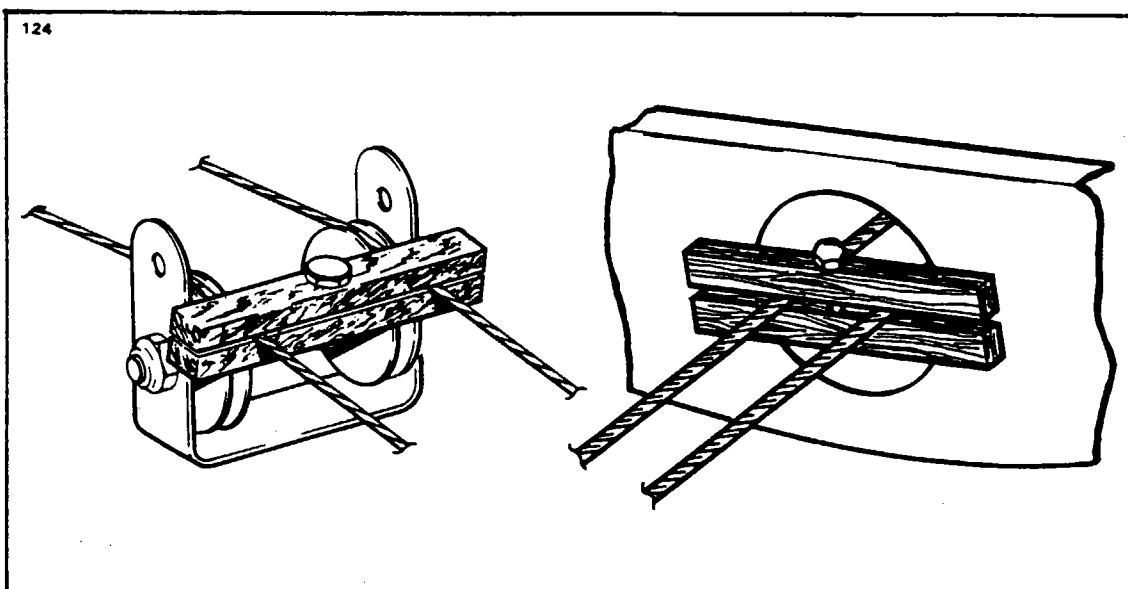

Figure 5-8. Methods of Securing Trim Cables
- b. If the aft trim cable (12) is not to be removed, block the cables at the pulleys (35) in the upper aft section of the fuselage to prevent them from unwrapping from the trim drum. (Refer to Figure 5-8.)
- c. Loosen the cables if the trim control wheel (1) is to be removed or disconnect if the cables are to be removed. Do this at the trim cable turnbuckles (10 and 11) in the aft section of the fuselage.
- d. The control wheel (1) with drum (3) may be removed by the following procedure:
2. The wheel assembly may be removed from its mounting brackets (4) by removing nut, washer and bolt (7) that secures the wheel between the brackets. Draw the wheel from the brackets. Use caution not to damage trim indicator wire (2).
3. Unwrap the left cable (9) from the drum.
4. The wheel and drum are joined by a push fit, separate these two items with their center bushing and unwrap the right cable (8).
- b. Block the trim cables at the first set of pulleys (13) forward of the cable turnbuckles (10 and 11) in the aft section of the fuselage by the method shown in Figure 5-8.
- c. Disconnect the cable (12) at the turnbuckles (10 and 11) in the aft section of the fuselage.
- d. Remove cable guard (18) from pulley cluster (35) and cable guards (19) from pulley cluster (41).
- f. Disconnect the push rod (30) by removing the attaching hardware (29) securing push rod to screw (22).
- g. Remove safety wire, bolts, washers and bushings (20, 44 and 47) securing forward end of barrel (21). Remove snap ring (28) to free aft end of barrel (21).
- h. Draw the trim cable (12) from the fuselage and up the fin.